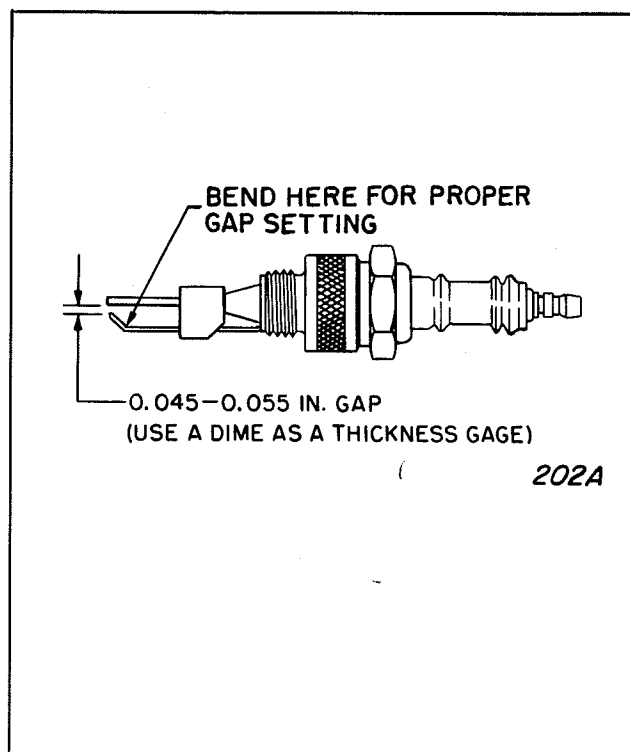

Figure 8. Spark Plug Gap Setting
2. Remove the spark plug from the burner head, and check the gap between the electrodes. The gap must be within the limits shown in figure 8.
3. Adjust the gap by bending the outside electrode. See Figure 8.